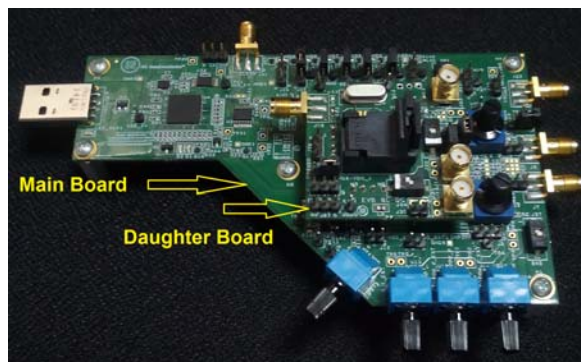

Figure 2. Top View of Main Board with DFN8
- d. Place NB3x60113G in the DUT socket U2. For pin 1 alignment refer to Figure 2